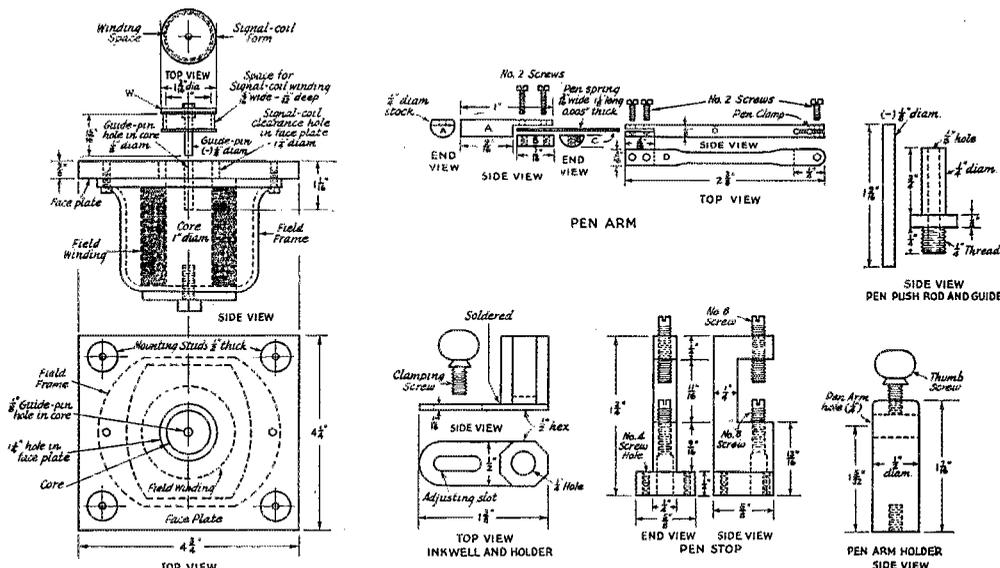
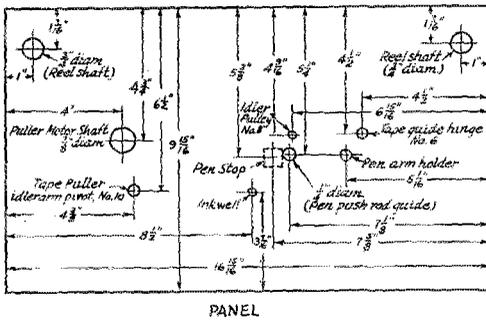

Fig. 2 — Pen and actuating mechanism. Details of assembly are given in the text.
Fig. 3 — Panel layout, showing location of important hole centers. The panel in the original is $\frac{1}{8}$ -inch steel.
the description of these first. Referring to Fig. 2, the driving mechanism is built around the "works" of an old 8-inch dynamic loudspeaker unit with a separately-excited field winding. The core must be removed, drilled and reamed accurately at the center to a depth of $1\frac{1}{16}$ inches at a diameter of $\frac{1}{8}$ inch. The walls of the hole should be polished smooth to reduce friction. The field shell is then fitted with a face plate of soft iron, $\frac{3}{8}$ -inch thick, in which a $1\frac{1}{4}$ -inch hole must be cut at the center. Other dimensions will depend upon measurements of the speaker unit used. Heavy studs or spacers are placed at the four corners of the face plate to space it from the under side of the panel when mounting.
The signal-coil form is turned from a small piece of bakelite tubing. The space for the signal-coil winding (1600 turns of No. 42 enameled wire) is $\frac{5}{16}$ inch wide and $1\frac{1}{32}$ inch deep. A thin bakelite washer (W) is cemented over the upper end of the form so that a $\frac{1}{8}$ -inch-diameter (actually 0.120 inch) polished aluminum guide pin can be fastened at its center with a thin nut. The shoulder inside the form may either be turned on the guide pin, or it may consist of a second locking nut, although extreme care must be used to locate the guide pin at the exact center and square with the form. Flexible leads of 'phone cord are soldered to the ends of the signal winding and the junctions are anchored firmly to the top of the form with cement. While it will be noticed that the inside diameter of the coil form and the outside diameter of the field core are shown the same (1 inch) in the drawing of Fig. 2, either the top end of the core, or the inside of the coil form must be machined down so that there is a clearance between the two of about 0.010 inch to allow free movement of the form over the end of the core. Similarly, the guide-pin hole in the center of the core and the guide pin itself must be made to fit so that the coil will move freely, but without excessive play. Care must also be used in mounting the face plate to make the core central in respect to the hole in the face plate. This unit should be mounted centrally beneath the $\frac{1}{4}$ -inch hole marked *pen push-rod guide* in the panel plan of Fig. 3.
The upper end of the signal-coil guide rod serves to push the pen push rod through the pen push-rod guide shown in the upper right-hand corner of Fig. 2, so the top end of the coil guide rod should be flattened so that the bottom end of the push rod will not have a tendency to skid. The
push rod is also made of $\frac{1}{8}$ -inch aluminum rod and it and the push-rod guide should be made to fit accurately to allow the rod to slide up and down freely, but without excessive play. A clearance of 0.005 inch is suggested. The guide mounts in the hole marked for it in Fig. 3.
The pen arm, which is pushed up and down by the push rod, consists of the four parts lettered in Fig. 2. The main part of the arm (D) is cut from $\frac{1}{8}$ -inch aluminum sheet. The slit with the lateral notch at the right-hand end forms a means of clamping the pen in position. The slit at the other end is for fastening one end of the flat spring. Both slits should be not more than $1/32$ -inch wide, so you may have to get a jeweler to do the job. The length of spring between the main part of the pen
arm and the mounting piece (A) should be $\frac{3}{8}$ inch. The mounting piece is formed from a short piece of $\frac{1}{4}$ -inch brass rod. The piece (B) is used as a clamp for the left-hand end of the spring. I made the spring from a piece of steel clock spring. This makes it necessary to punch the screw holes, since the steel is too hard to drill. If you can't manage this, spring copper, which may be drilled, makes a pretty good substitute. Part (A) is filed flat on top, as shown in the end view, so that it may be clamped firmly by the thumb setscrew of the pen-arm holder shown in the lower right-hand corner of Fig. 2.
Naturally, we must have something to limit the stroke of the pen to keep the horizontal ink lines straight on the tape. The pen stop, shown in Fig. 2, takes care of this. The one shown is cut from a solid piece of brass, although there are doubtless other ways of making it. The only requirements are that its over-all size be kept small enough to fit in the space allotted to it on the panel and that the center of the space between the adjusting screws be central with the hole in the pen-arm holder. In mounting the stop the base of the pen-rod guide may have to be filed off on one side, since these two come quite close together.
- L — Signal coil, 1600 turns No. 42 enameled wire wound on form shown in Fig. 2; resistance approximately 375 ohms.
right of the headlight bulb, the construction of which is shown in Fig. 2. It consists merely of a piece of hex stock drilled out to form a small cup which is then soldered onto a length of 1/16-inch brass strip. The slot and thumbscrew allow the well to be swung out of the way when removing the pen arm. I added the extra feature of a threaded cap so that I could carry the unit around without spilling the ink.